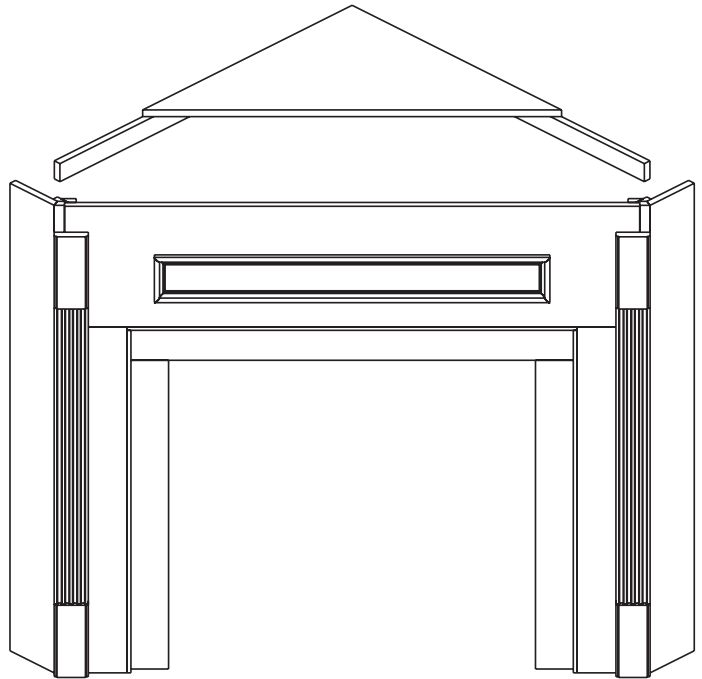

Figure 7
7. Place mantel top rear and mantel top front onto mounting strips, mantel sides and breastboard. Figure 7